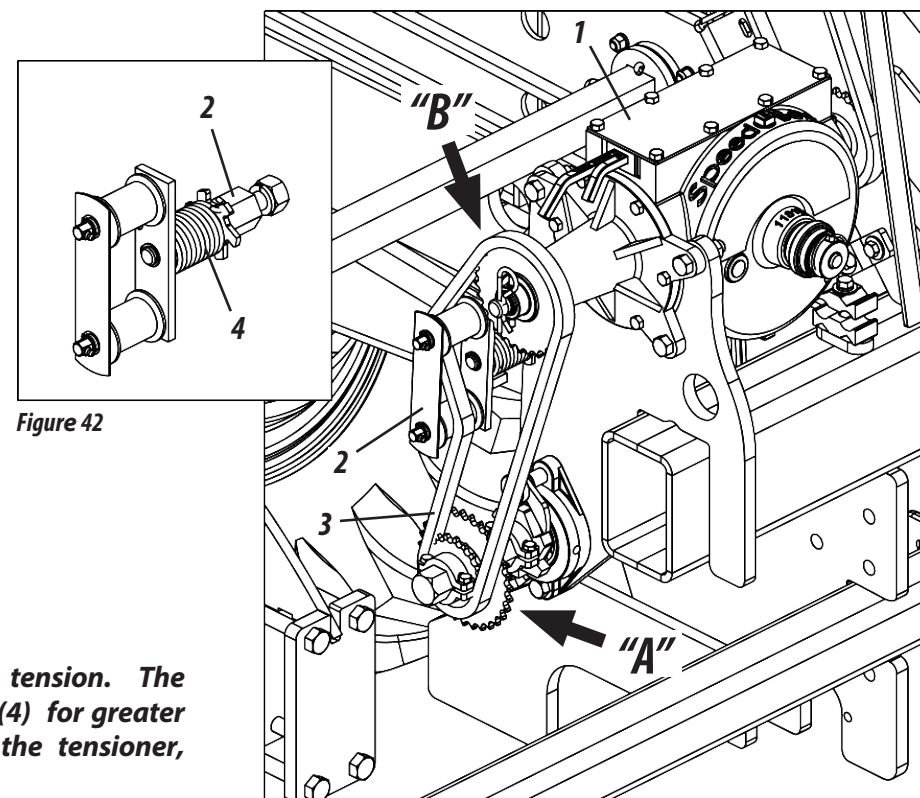

Figure 42
The seed adjustment is made by the *Speed Box* (1). For more adjustments, reverse the direction of the chain of the motor gears. "**A**" and moved "**B**", as shown in figures 42. To reverse the direction of the chain on the gears, proceed as follows:
- 1- First, turn the tensioner (2) removing the tension of the chain (3).
- 2- Then reverse the chain (3) as work requires.
- 3- Then, release the tensioner (2) releasing it, returning the tension in the chain (3).